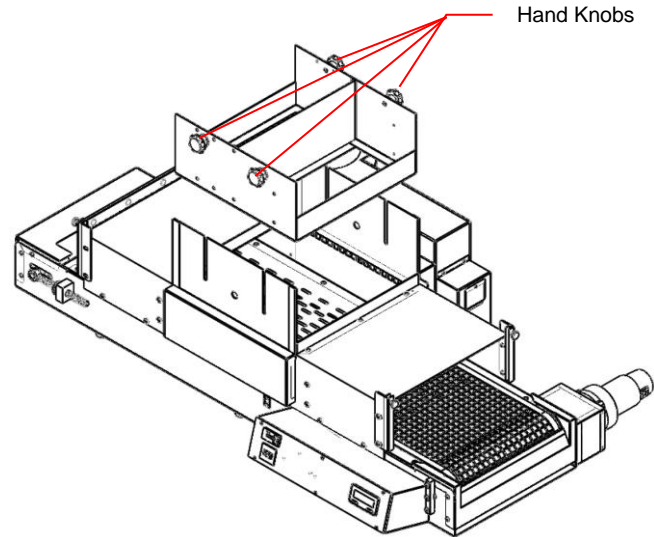

Figure 3. Loosen Hand Knobs and Remove Conveyor Cradle
3. Loosen the Conveyor's four Hand Knobs and remove the Cradle Assembly (Figure 3).